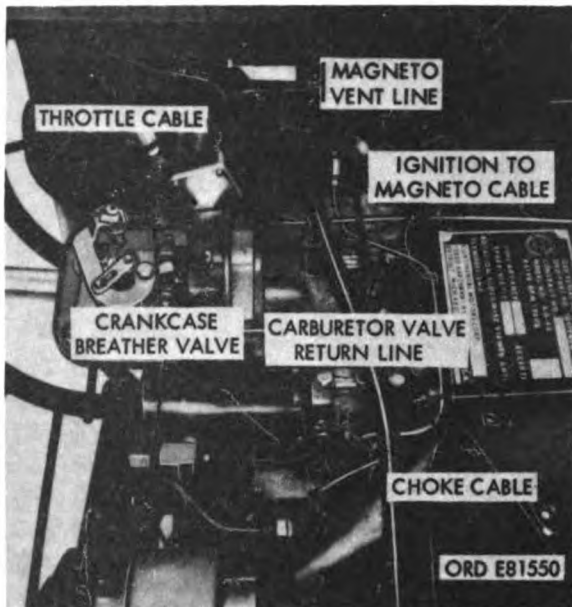

Figure 2-4. Location of controls, cables, and lines.
- f. Disconnect throttle and choke control cables (fig. 2-4).
j. Disconnect magneto vent line from air cleaner (fig. 2-4).